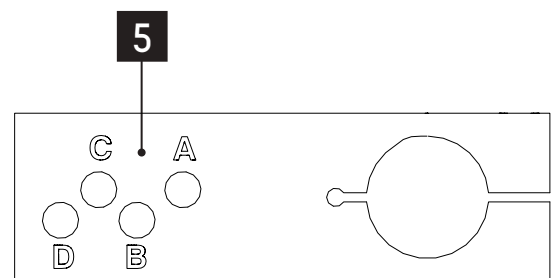

Fig. 25 - Detail of fixing points on the spring jaw
(1) Spring position on lever: mark: **(5)** ⇒ Fig. 25, page 24.